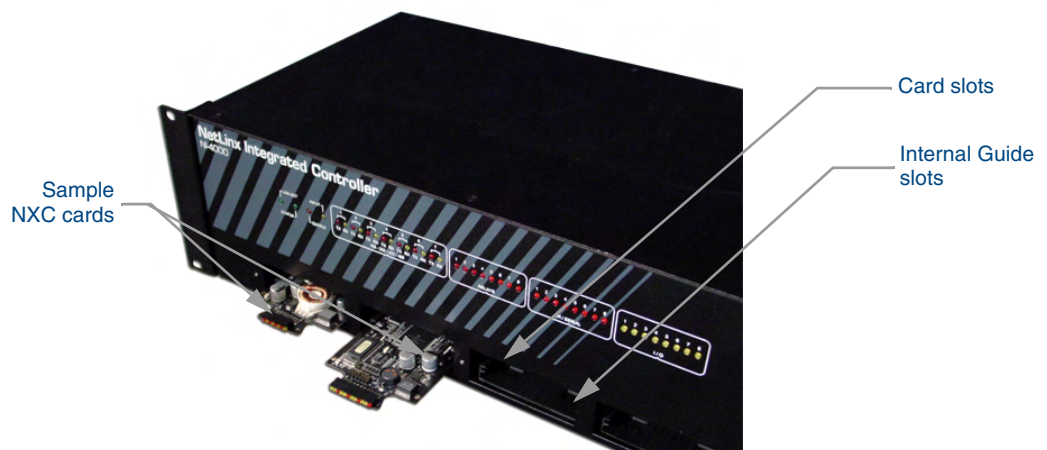

FIG. 2 Sample NXC cards inserted into an NI-4000 unit
3. Align the edges of the card with the internal guide slots and gently slide the card all the way into the slot (FIG. 2).